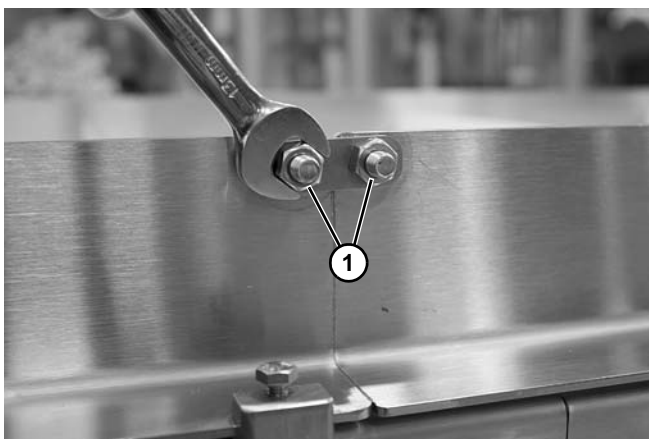

Figure 36
5. Install nuts (Figure 36, item 1) and tighten.